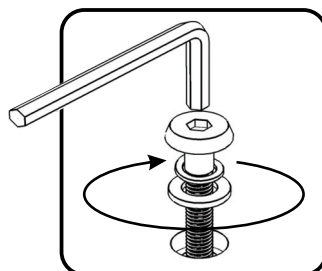

Figure 1
Attach Side Panel (I) to unit with Flat Washers, Spring Washers and Head Cap Bolts. (See Figure 1)